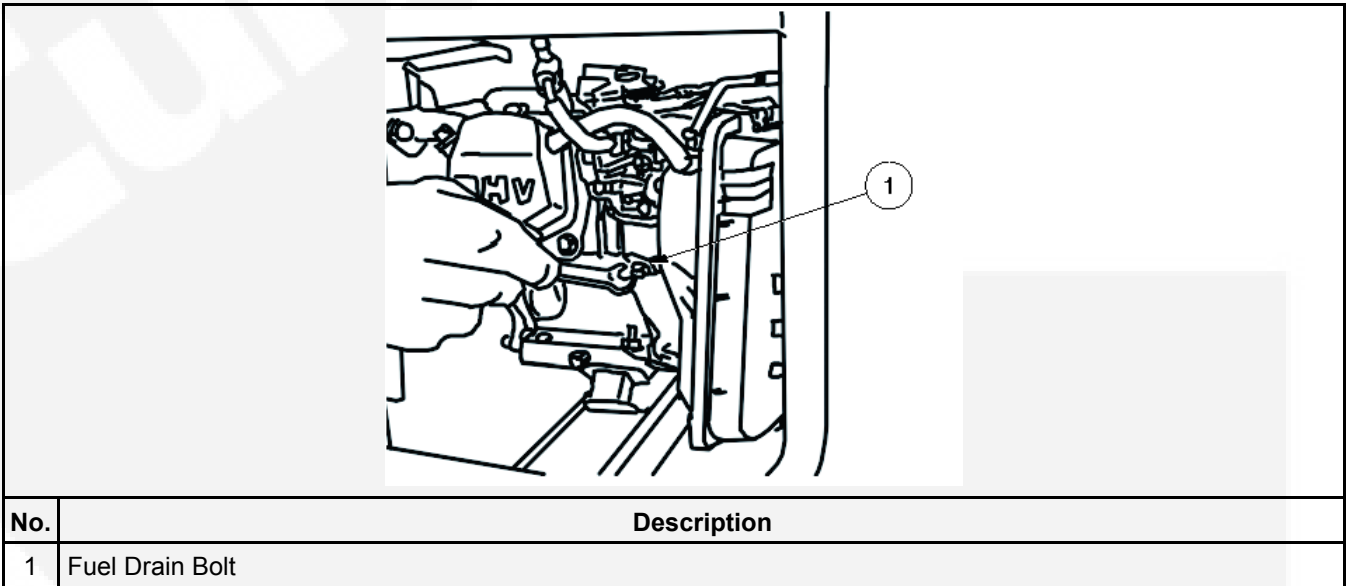

FIGURE 7. CARBURETOR DRAIN
2. Shut the fuel valve and drain the carburetor bowl (see Figure 7).